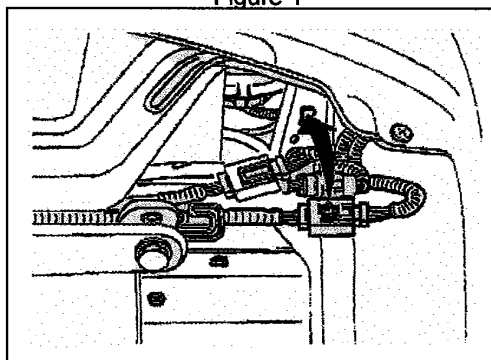

Figure 2
4. Remove sponge pad of chassis wiring connector, which is connected to the ABS wiring connector (6-pins). Install new clip-mounting on it and insert into bracket hole. (figure 2)